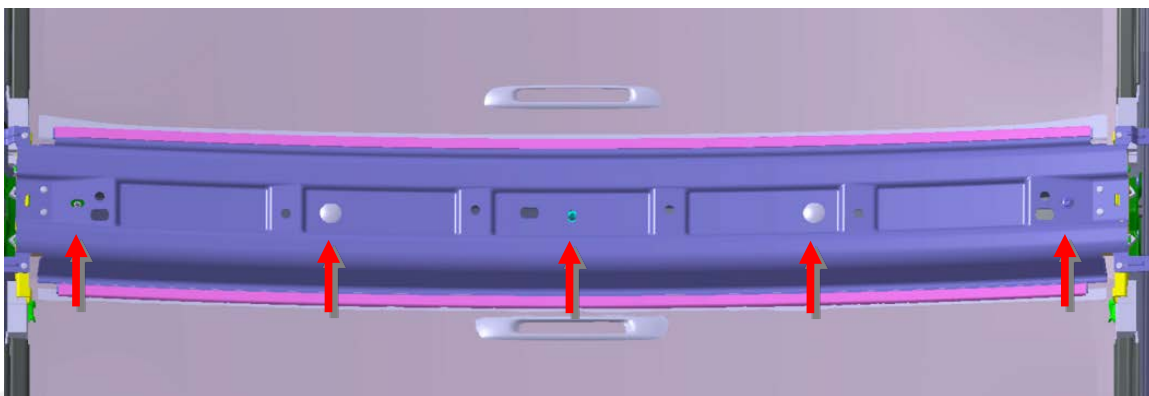

Figure 1
3. If equipped, remove the 3 screws and 2 trim buttons from the bottom side of the sunshade carrier (Figure 1). If the vehicle does not have a sunshade carrier, skip to step 5.